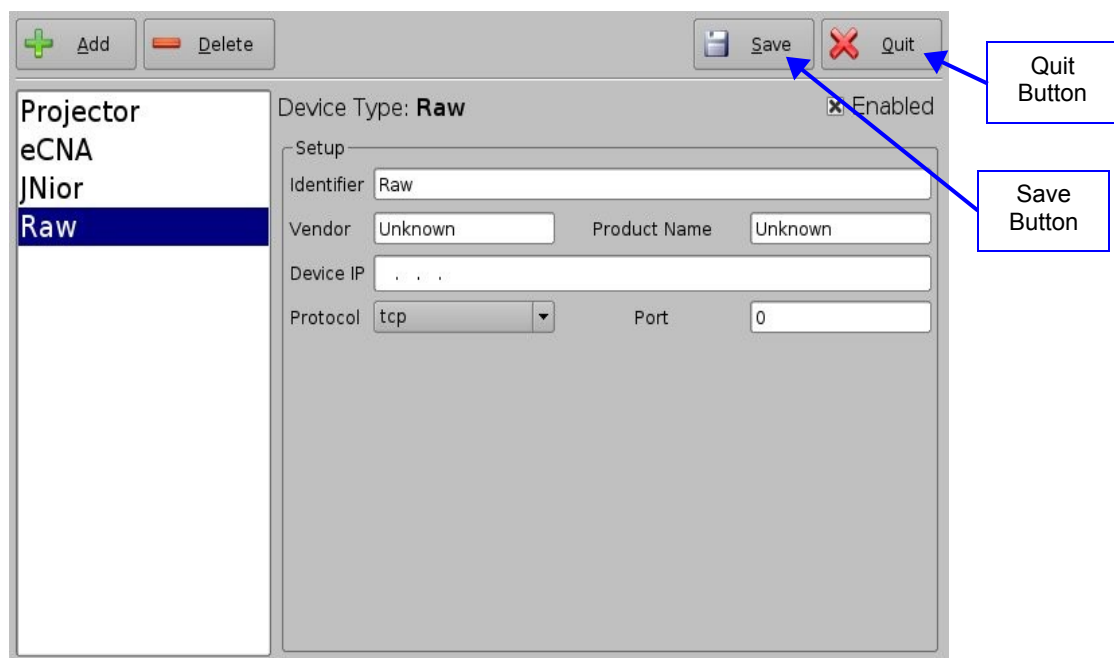

Figure 99: Device Manager GUI – Raw Device Configuration
- The Device Manager GUI will be updated to reflect the addition of the Raw device (Figure 99).
- Enter the IP address of the Raw device in the Device IP field (Figure 99).
- Click the Save button to record the settings (Figure 99). A window will appear asking for a password. Enter the password to proceed.
- To remove the Raw device, click on it in the Device Manager GUI and press the Delete button (Figure 99).